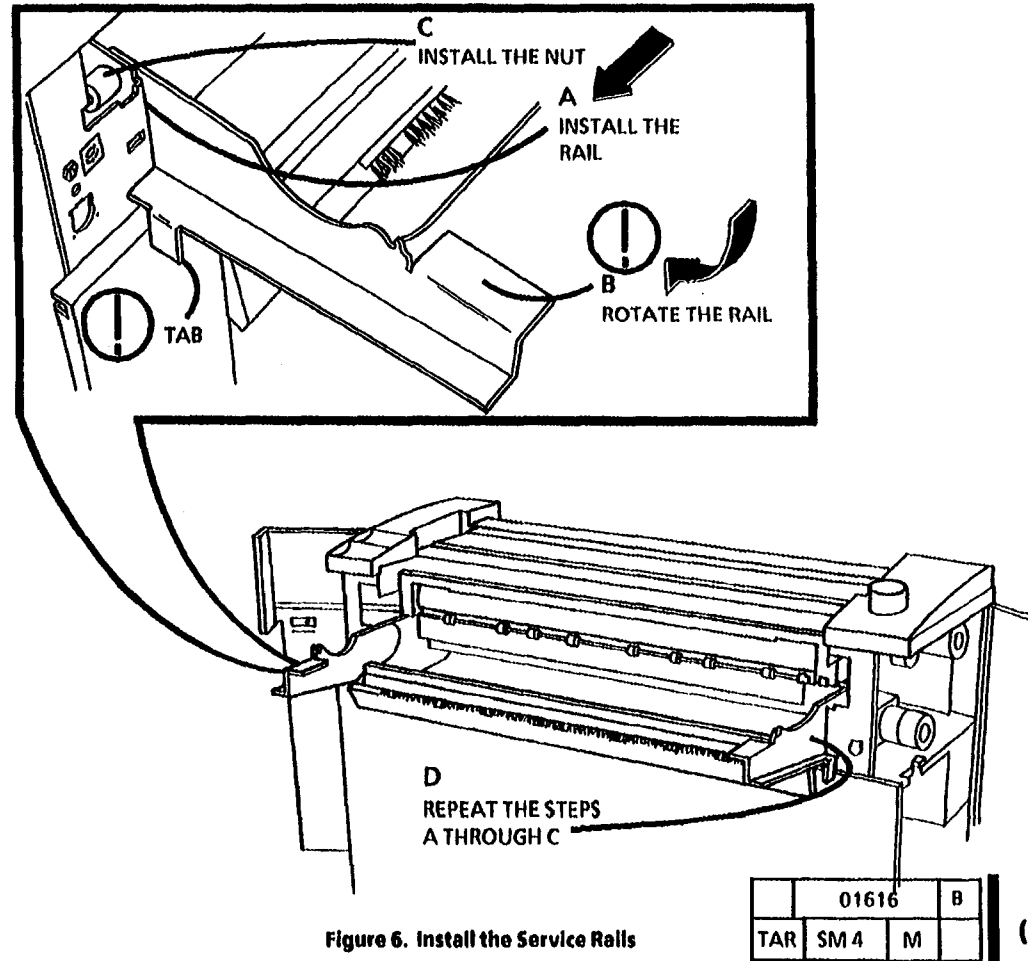

Figure 6. Install the Service Rails
10. (Figure 6): Install the Xerographic Module Service Rails.